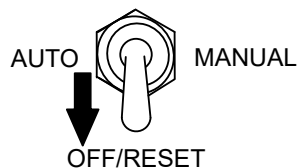

Figure 19. Auto Start/Stop Switch (Off/Reset Position)
5. Place the **Auto Start/Stop switch** (Figure 19) in the **OFF/RESET** position.